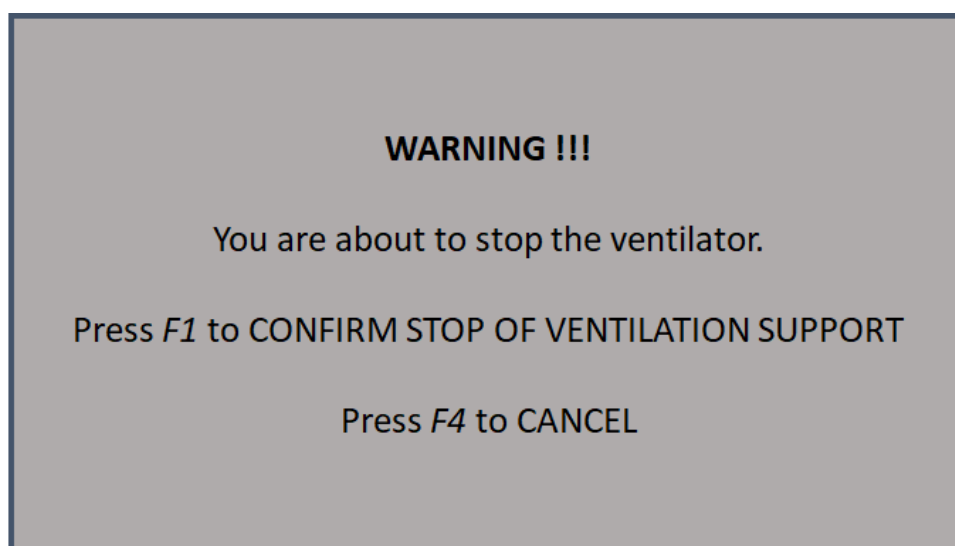

Figure 7: Termination of ventilation is a two-step process which requires the user to confirm the action by pressing F1.
- b. When the ventilator is turned on and ventilating, bottom right hand corner shows 'Stop' (displays an additional menu where the user needs to confirm this action, see Figure 7.)
When the user wishes to terminate ventilation and return to stand-by mode, an additional acknowledgement is required. Upon selecting Stop in the right-hand side menu (Using **F4** and **F3**) a pop-up screen as seen in Figure 7 will be displayed, requiring the user to push **F1** to terminate. This two-stage process is implemented to avoid accidentally terminating ventilation while navigating menus.